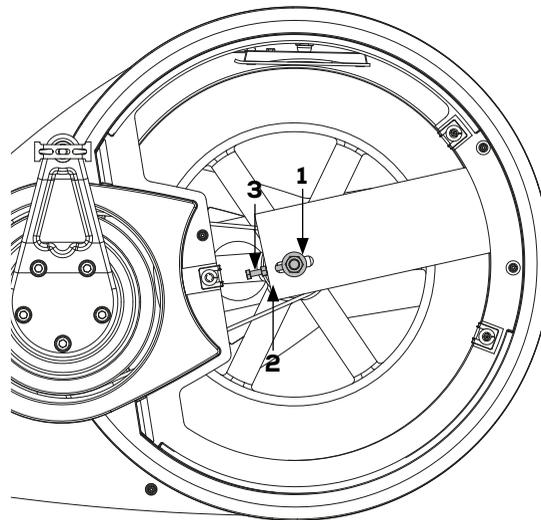

Figure 21
2) Loosen the bolts (1) on both sides of the cycle with a 19 mm wrench, see figure 21.
3) Loosen the nuts (2) on the counter bolt on both sides of the cycle using a 10 mm wrench, see figure 21.
4) Use a 10 mm wrench to tighten the counter bolts (3). On the right side, the tool should be pulled downwards and on the left side upwards to tighten.
6) Tighten the counter bolt (2) on both sides of the cycle again.
7) And tighten the bolt(1) again on both sides of the cycle.